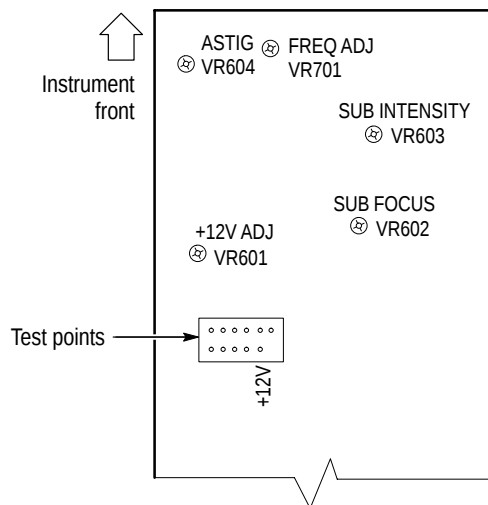

Figure 7: Power and High Voltage Board (Viewed from the Instrument Bottom)
To locate the adjustments and test points for the following procedures, refer to Figure 7. The Power and High Voltage board occupies the bottom-left side of the instrument below the CRT.
1. On the Power and High Voltage board, connect the voltmeter common lead to the oscilloscope chassis ground and the measurement lead to the +12 V test point. See Figure 7 for the test point location.
3. Adjust VR601 for a voltmeter reading of +12 V. See Figure 7 for the adjustment location.
4. Verify that the voltage levels in Table 21 are within the specified limits. See Figure 7 for the test point locations.
3. Locate VR603 on the Power and High Voltage board (see Figure 7 for the adjustment location). Adjust VR603 until the trace is barely visible.
1. Set the front panel FOCUS control to midrange; then adjust VR602 on the Power and High Voltage board to obtain the best focus. See Figure 7 for the adjustment location.
4. Adjust VR604 on the Power and High Voltage board and the oscilloscope front panel FOCUS control until the dot becomes circular. See Figure 7 for the adjustment location.